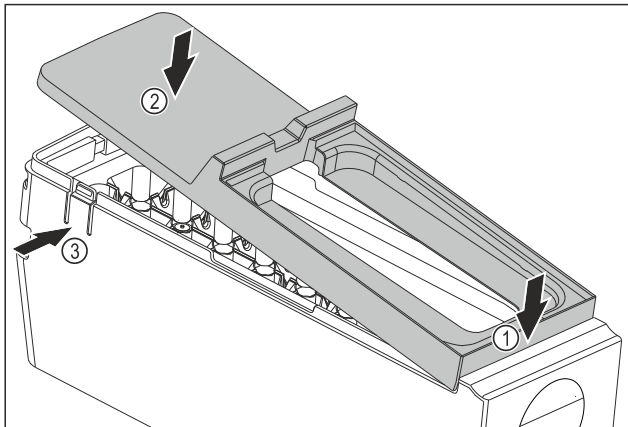

Fig. 134
- ▶ Installing the EasyTwist-Ice body cover: Place the cover on the front. Fig. 134 (1)
- ▶ Lower the cover at the rear. Fig. 134 (2)
- ▷ The cover locks into both tabs Fig. 134 (3) audibly.